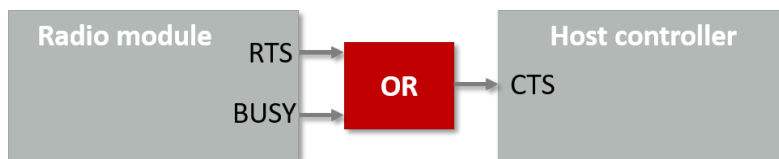

Figure 12: Transparent mode flow control
- **Flow control:** The Thyone-e implements additional *BUSY* pin to indicate that the module is busy doing radio tasks and hence cannot accept any more data on the UART. It is mandatory to implement the Thyone-e *BUSY* pin and enable the UART flow control on the host and Thyone-e, in order to prevent data loss on the UART (Figure 12). In the absence of this flow control scheme, the application must be able to accept/handle loss of data.